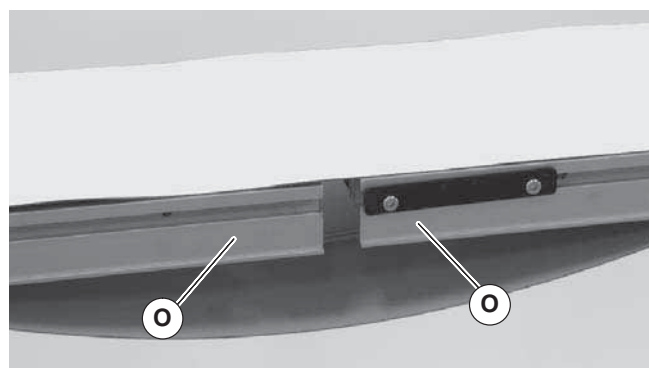

Figure 6
3. Roll out conveyor belt and place conveyor frame sections (Figure 6, item O) into belt loop.